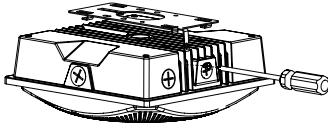

Fig. 2.1
1. Loosen the screw on the side of the luminaire and remove the mounting plate at the back (Fig 2.1).